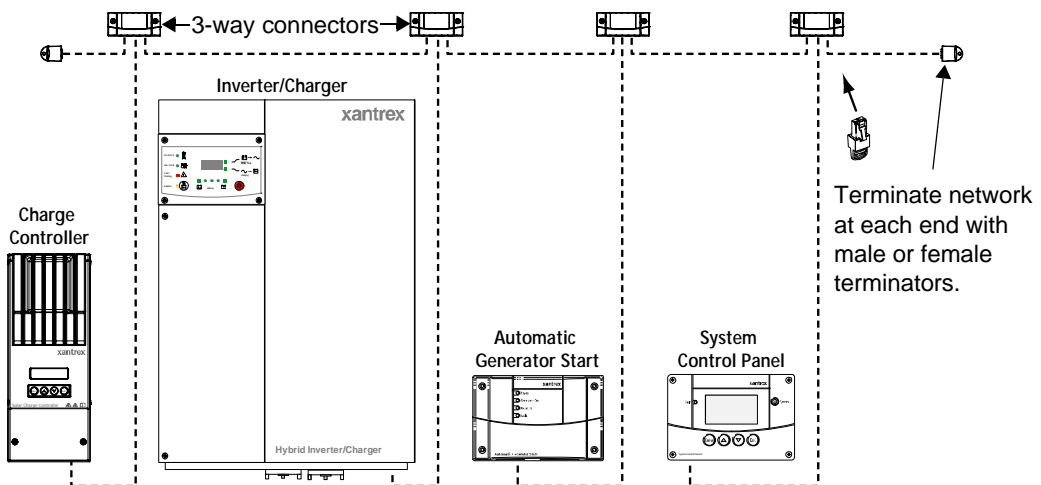

Figure 2-5 Multi-Drop Backbone Layout
In a multi-drop backbone layout, each Xanbus-enabled device on the network is connected by a drop cable to the network bus or backbone using a network connector, as shown in Figure 2-5.
4. Connect each network connector with a Xanbus cable as shown in Figure 2-5.